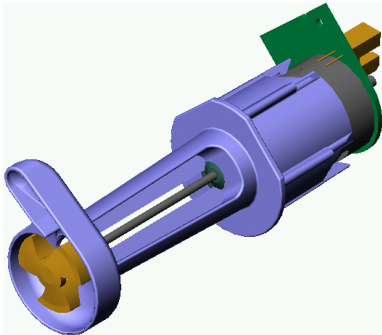

Fig. 4 Pump motor + rotor
| Fig. 4 Pump motor + rotor | 4 |
- After a selection key is pressed, the pump motor (fig.4) is driven for a certain time, depending on the programmed amount, with a certain speed (number of revolutions).